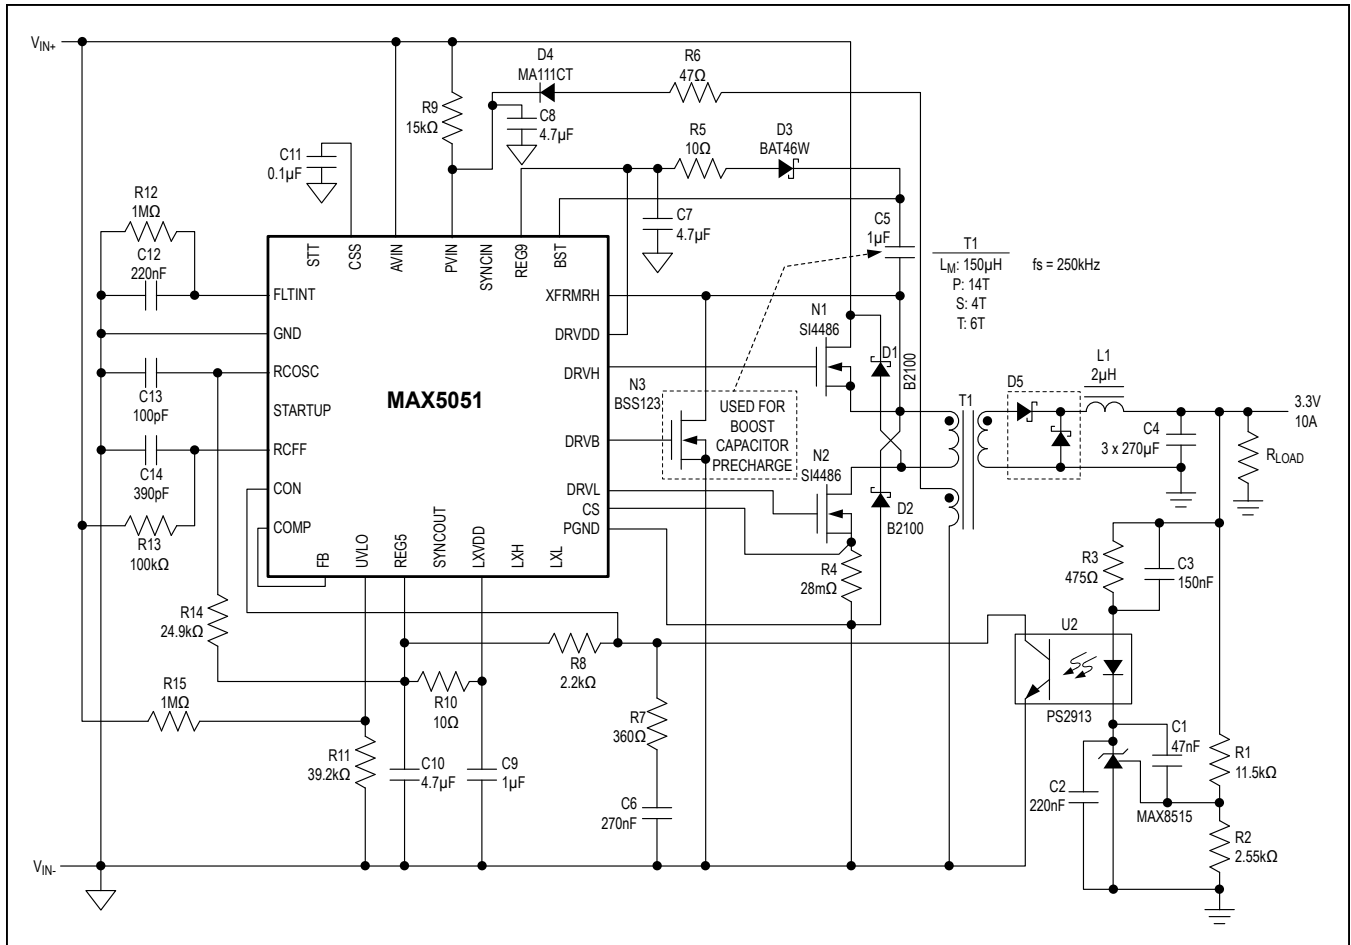

Figure 2. Typical Application Circuit
The two-switch power topology has the added benefit of recovering practically all magnetizing as well as the leakage energy stored in the parasitics of the isolation transformer. The lower clamped voltages on the primary power FETs allow for the use of low  $R_{DS(ON)}$  devices. Figure 2 shows the schematic diagram of a 48V input 3.3V/10A output power supply built around the MAX5051.
If the charge stored on the boost capacitor is not adequately replenished then the gate-driver lockout for the high-side MOSFET is triggered, stopping the high side from switching. The low side continues switching, eventually recharging the capacitor, at which point the high side starts switching again. To prevent this behavior, use the boost capacitor's cycle-by-cycle charging circuit to prevent unwanted shutdowns of the high side (Figure 2). Connect the gate of a small high-voltage FET (with the same voltage rating or higher as the main FETs) to the DRVVB output of the MAX5051. Connect the drain of this FET to XFRMRH, and connect the source to the primary ground. DRVVB will briefly (300ns) turn this FET ON every cycle after the main PWM clock terminates. This allows the boost capacitor to be replenished under all conditions, even when switching stops completely. A suitable FET for this is BSS123 or equivalent (100V, 170mA rated). The boost-capacitor charge diode is a high-voltage, small-sig-
The error amplifier in the MAX5051 has an uncommitted inverting input (FB) and output (COMP). Use this amplifier when secondary isolation is not required. COMP can then be directly connected to CON (the input of the PWM comparator). The noninverting input of the error amplifier is connected to the soft-start generator and is also available externally at CSS. A capacitor connected to CSS is slewed linearly during initial startup with the 70µA internal current source (see Figure 2). This provides a linearly increasing reference to the noninverting input of the error amplifier forcing the output voltage also to slew proportionally. This method of soft-start is superior to other methods because the loop is always in control. Thus, the output-voltage slew
After coming out of standby and before initiating the soft-start, the MAX5051 turns on the low-side FET to charge up the boost capacitor. A voltage detector has been incorporated in the high-side driver that prevents the high-side switch from turning on with insufficient voltage. It is also used to indicate when the boost capacitor has been charged. Once the capacitor is charged, soft-start commences. If the duty cycle is low, the magnetizing energy in the transformer may be insufficient to keep the bootstrap capacitor charged. DRVb (see Figure 2 dotted lines) has been provided to drive a small external FET connected between XFRMRH and PGND, and is pulsed every cycle to keep the capacitor charged.